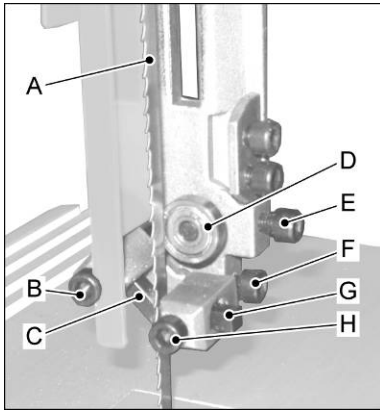

Fig 7
Position the guide assembly forward/backward so that the teeth keep a distance of appr. 2mm to the guide elements (C, G, Fig 7). Secure the back guide roller (D) so that the distance to the saw blade (A) is 1mm.